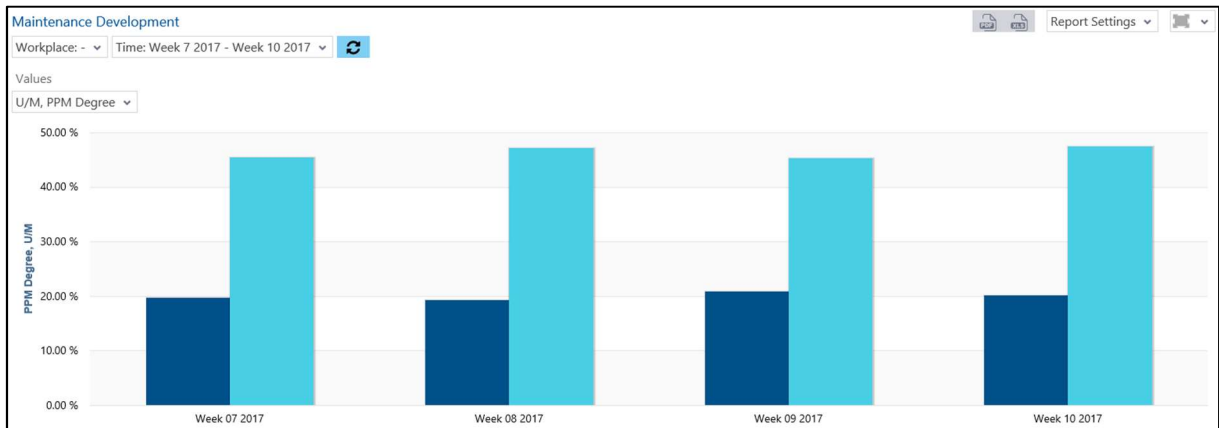

Fig. 148: Maintenance Development as a column chart
- Maintenance Development as a column chart (Fig. 148):